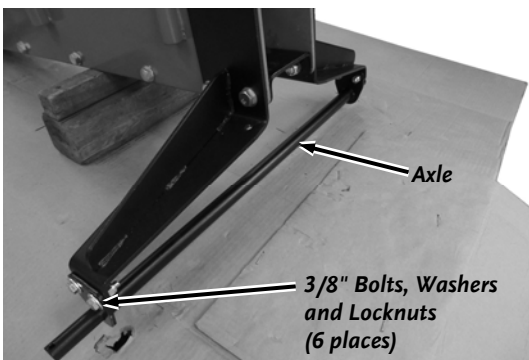

Figure 5
7. Position the Axle with its mounting ears on the outside of the two Mounting Brackets and install the Axle with 3/8" Bolts, Washers (one on bolt side only) and Locknuts using two 9/16" Wrenches (**Figure 5**).